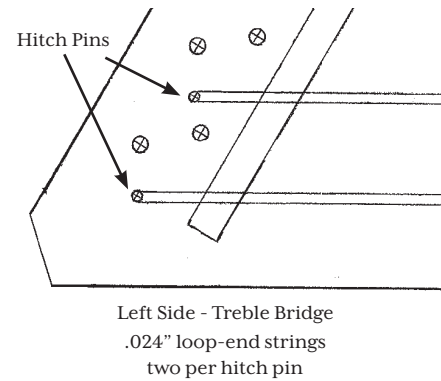

FIG. 19
- ___28. Find four of the loop-end wound strings (size .024"). These will form the first two "courses" (pairs) of strings near the bottom (wide) front rail of the dulcimer. (fig. 19) Insert a HITCH PIN through two of those string loops and use the Square Drive Bit provided to install the HITCH PIN into the wood, leaving a little space under the head of the screw so the wires can be pulled into alignment. (If you forgot to leave the bottom two hitch pins out - don't worry. Just remove those pins, add the strings, and re-install.)